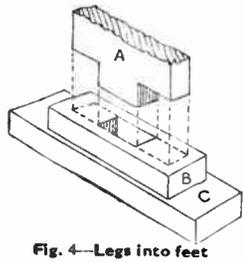
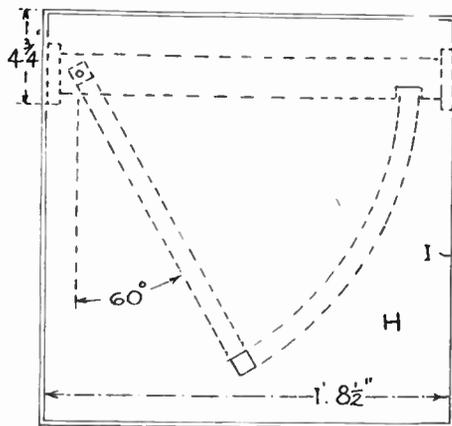
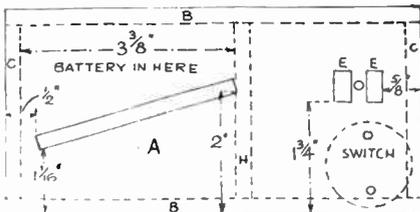
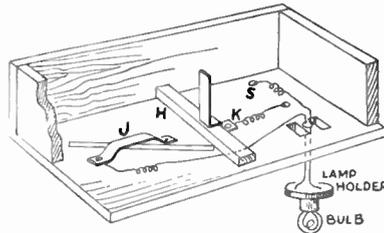

Fig. 4—Legs into feet
Fig. 6—Plan of top with swing of leg dotted
Fig. 2—Plan of the base board top
Fig. 3—Underview of box showing connections
The main frame support for the table consists of four pieces, two uprights and two horizontal rails, with the addition of four pieces coupled to form suitable feet. In Figs. 2 and 3 the uprights (A) are first made and these are 1ft. 8½ins. long by 3ins. wide by ½in. or ¾in. thick.
The length given allows for ½in. depth of tenon to go into piece (B) of the feet, see detail Fig. 4. There must be two mortises cut in each piece (A), to take the ends of the horizontal rails. The measurement of 4½ins. must be taken up from the bottom of the upright, as in Fig. 3, the space between this mortise and the upper one being 14ins., as seen in Fig. 2.
A view of one of the feet is shown in Fig. 4. piece (C) being 5ins. long by 1½ins. by ½in. section, and piece (B), 3½ins. long by 1½ins. wide by ½in. thick. Mark off the mortises carefully in pieces (B) to fit the tenons of pieces (A). Then glue all firmly together.
This is again seen in the view Fig. 2 and in the plan Fig. 6. Glue the rails (D) in place in the uprights, making sure to get a close fit and, therefore, a rigid frame. At the opposite end to that containing the recesses, cut and glue in two small bracket pieces, as shown in Fig. 2. These are to strengthen the joint here and to help make a strong fixing for the pivoting screws which run up through both thicknesses of wood, see dotted lines for both rails (D).
Figs. 2 and 3 Front and end elevation showing parts and dimensions
The finished table top is hinged to the uprights with hinges measuring about 2ins. by $\frac{3}{8}$ in. wide. It would be best, and would make a neat job if the hinge flaps are recessed into the tops of the uprights, as in Fig. 3. Note the correct position of the table top in relation to the uprights, as in Fig. 6. The distance of 4 $\frac{1}{2}$ ins. is carefully measured and squared across so the frame hangs square when folded down. Test this out before finally fixing the hinges in place.
First make a shallow oblong box $6\frac{1}{2}$ ins. long by $3\frac{1}{2}$ ins. wide and $1\frac{1}{2}$ ins. deep. The top of the box, piece (A), should measure $6\frac{1}{2}$ ins. by $3\frac{1}{2}$ ins. In it are cut the two slots or mortises, marked (E,E) in Fig. 2. Set out the two measurements shown, to get the proper position of the slots which each measure $\frac{1}{2}$ in. by $\frac{1}{2}$ in. and are spaced $\frac{1}{2}$ in. apart. Cut these carefully with the fretsaw. The tenons which go into them must fit stiffly and accurately. Between the slots, next cut a hole large enough for the two wires of the flex to pass through to the lamp at the top of the tree.
The sides (B), measure $6\frac{1}{2}$ ins. by $1\frac{1}{2}$ ins., and are glued on to the top (A), flush with the edge, as shown in Fig. 3. This gives an underside view of the construction of the box and its interior fittings.
To get the proper placing of the giraffe, the slot in the top of the box is indicated and figured in Fig. 2. If the slot is not to be made, then the position will be just pencilled on.
It will be understood that a double-cell battery is to lie at one end of the box, as indicated in Fig. 2. A cross rail (H) bearing a brass strip will be fitted here to connect with the contact strip at the end of the battery, all as seen in Fig. 3. Then to form the second connection between battery and lamp, a raised loop of brass is screwed to the top of the box to contact that between the two cells of the battery.
Before, however, this can be done, a switch must be fixed to the top of the box in the position shown in the sketch, Fig. 1. That is, just near the foot of the tree, and at (S) in Fig. 3. Here two holes are bored for the passage of the connecting wires.